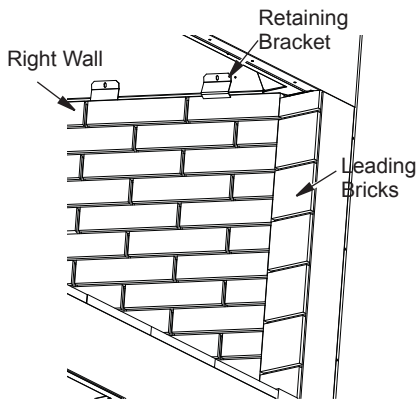

Figure 23 - Installing Side Walls
- Secure the firebrick wall using 2 of the retainers provided. The bracket will slip underneath the metal lip on the top of the wall and screw into the inner dome of the fireplace (Figure 23).